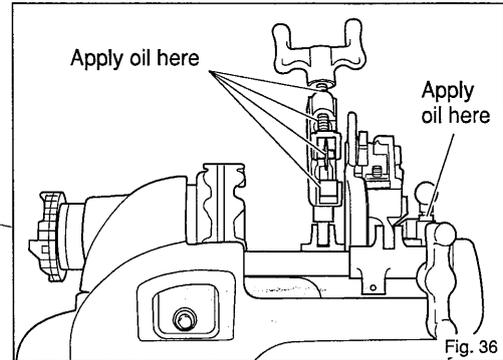

Fig. 36
1. Oiling the Pipe Cutter. (Fig. 36)
Be sure to apply spindle oil to the thread on of the cutter handle, blades and roller shafts once each day to maintain lubrication. This is extremely important; not only will it ensure that the tool cuts easily, it will also make its service life several times longer. (Fig. 36)